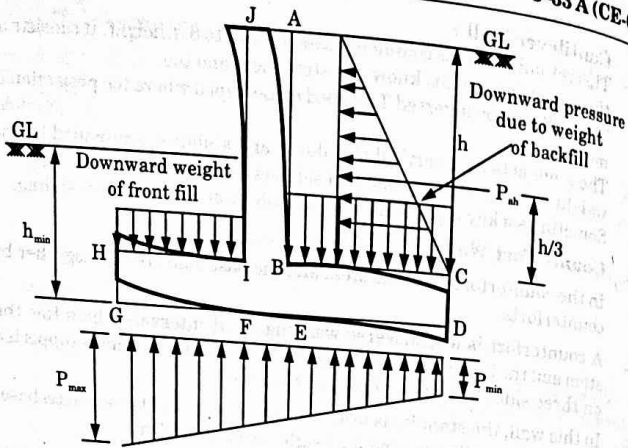

Fig. 5.14.1.
Consider the Fig. 5.14.1 showing a cantilever retaining wall subjected to a lateral force  $P_{eh}$ .
- i. The vertical wall or stem acts like a cantilever subjected to a triangular loading as shown in Fig. 5.14.1 with maximum pressure developed at the base. The base of the stem is subjected to maximum bending moment ( $M_B = k_a \gamma h^3/6$ ).
- ii. The stem of the retaining wall deflects as shown in the Fig. 5.14.1, developing tension on the face AB, retaining the earth.
- i. The heel slab is subjected to an upward soil pressure and a downward pressure due to the weight of the backfill supported on heel as shown in Fig. 5.14.1.
- i. The toe slab is also subjected to an upward soil pressure and a downward pressure due to the weight of the front fill supported on toe slab as shown in Fig. 5.14.1.